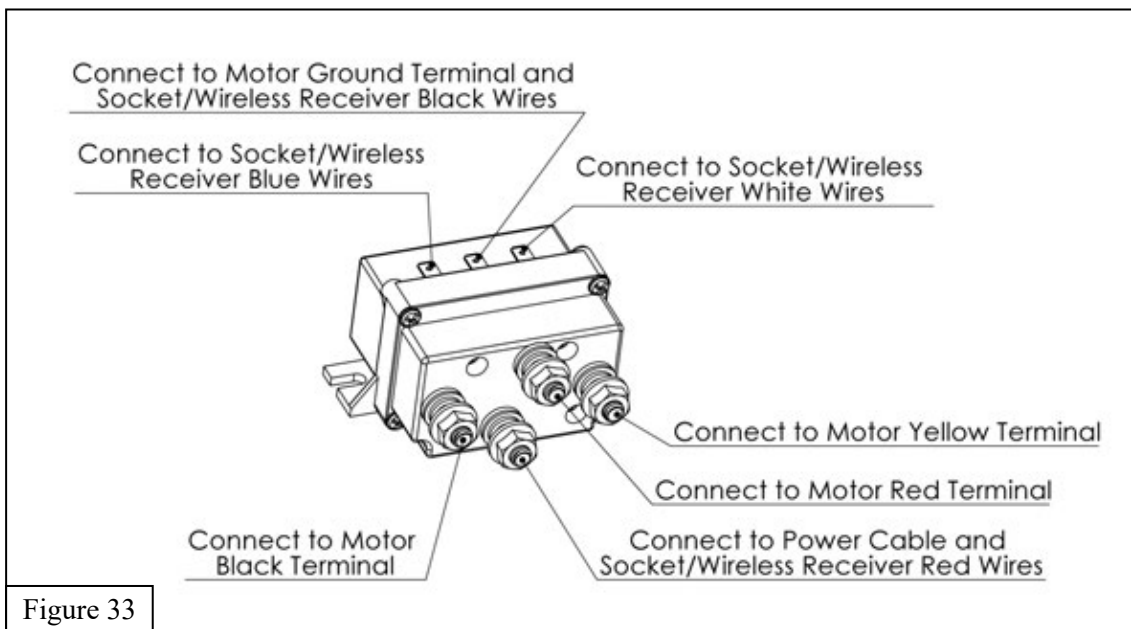

Figure 33
60. Install the motor cables and 8 foot long power cable onto the contactor according to **Figure 33**. Tighten the M8 hardware to 15-18 ft-lbs.